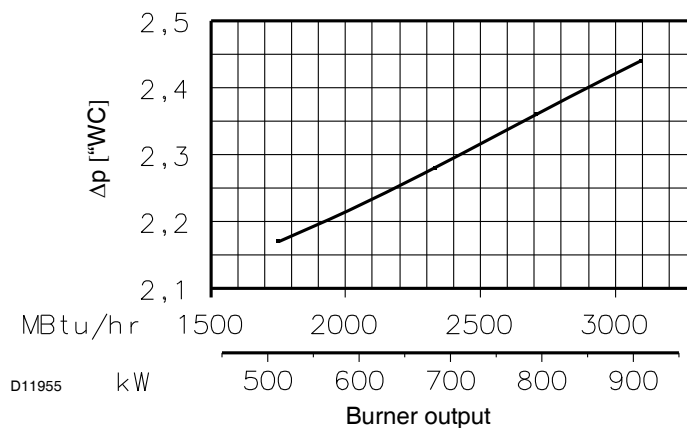

Fig. 26
- Combustion head adjusted as indicated in diagram (Fig. 26)
- Find the nearest pressure value to your result in Fig. 26.